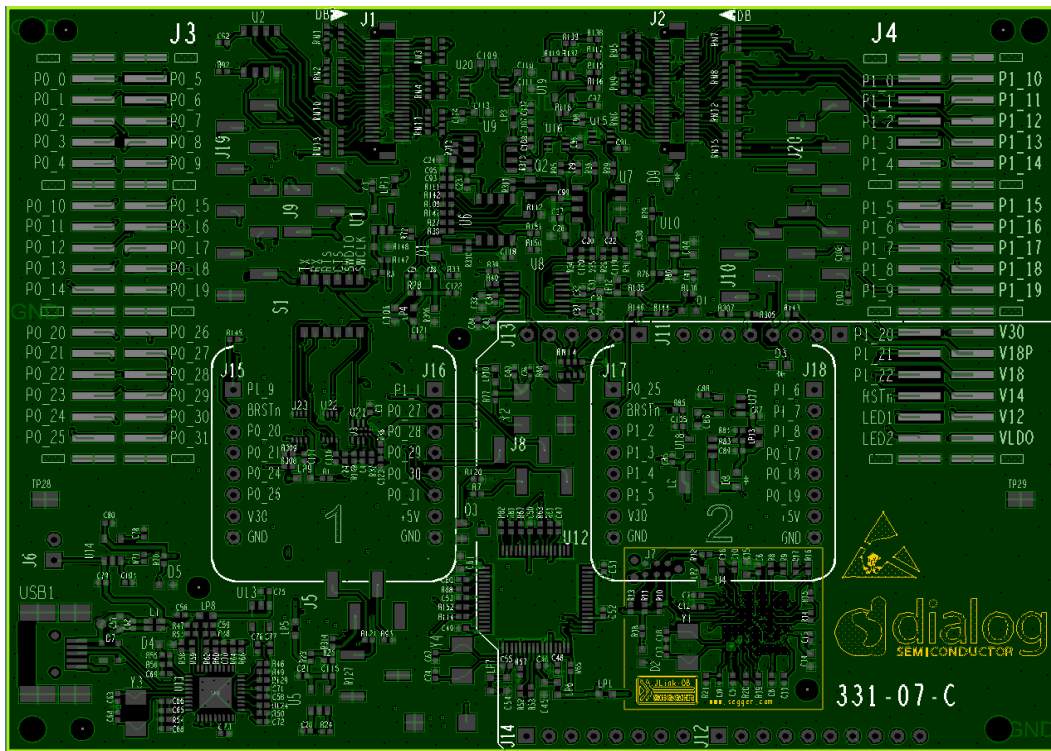

Figure 56: DA1469x DK Pro Motherboard: 2522-mb-pro_331-07-x
- PRO-motherboard: 2522-mb-pro_[331-07-x], Figure 56